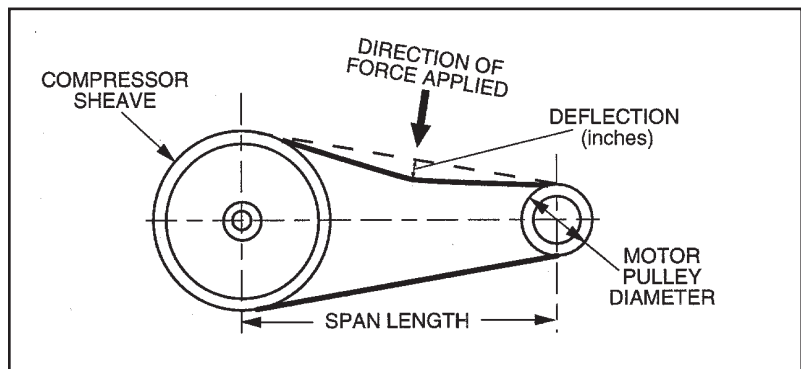
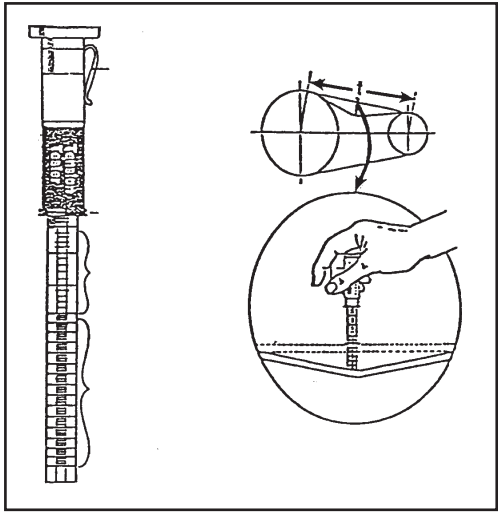

Fig. 5-1
Fig. 5-2 Belt Tension Gauge Pix 1153
Step 1) Measure the span length of the drive. (Refer to **Fig. 5-1, Setting Belt Tension.**)
Step 4) At the center of the span, perpendicular to the belt, apply pressure to the outer surface of the belt with a belt tension gauge (refer to **Fig. 5-2, Belt Tension Gauge**). Force the belt to the predetermined deflection (refer to **Step 2** above). Record the reading on the belt tension gauge and compare to the chart following **Fig 5-1**. The deflection force reading should be within the minimum and maximum values shown. Adjust belt(s) accordingly. New belts should be tensioned to the values listed under "Initial Install".